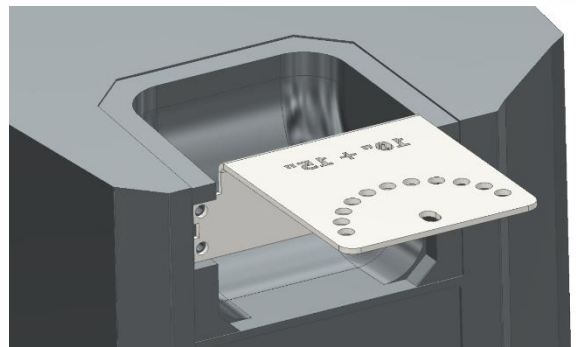

Figure 2
On the top of the speaker, mount the 10" + 15" fin shown in Figure 2. Screw in the four (4) screws that was used to hold the handles.